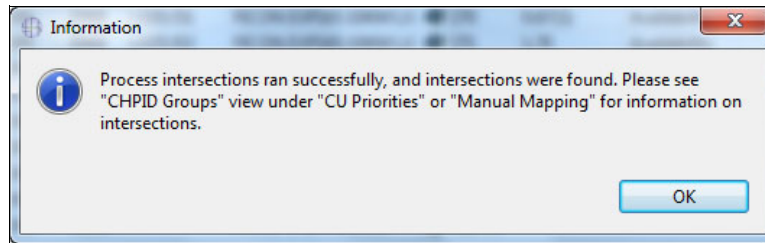

Figure 5-90 CMT - Process Intersections run successfully message
7. Click **OK** (Figure 5-90).